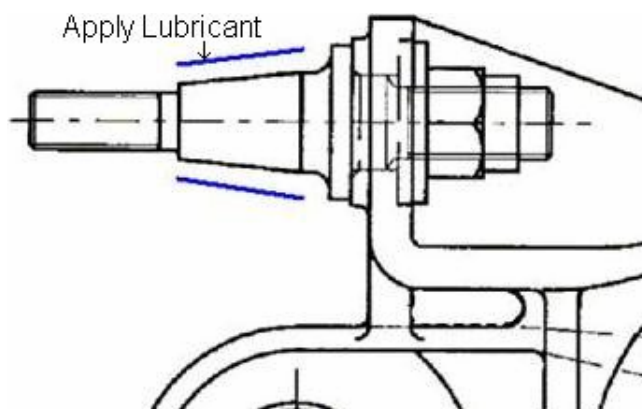

Figure 22.1: Application of Molykote Lubricant to Tapered Part of Spigot on Frame
- 22.3 Coat the tapered part of the spigot body, excluding the threads, with Molykote D321R bonded lubricant (Cat No. 027/004058) and allow to dry for five minutes (see Figure 22.1).